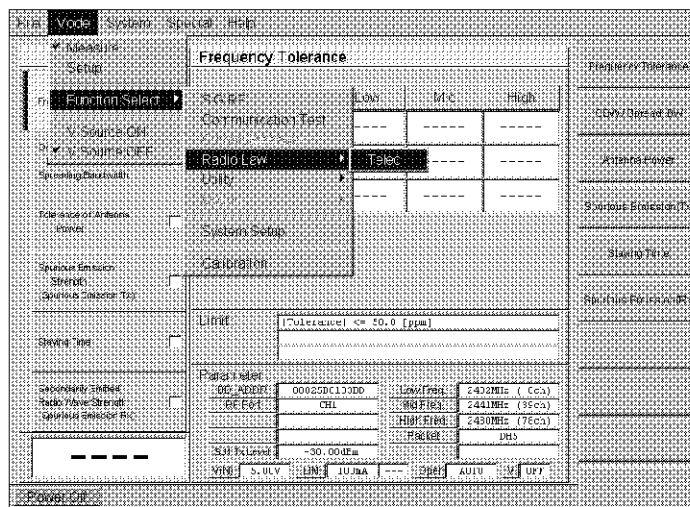

Figure 2-33 Telec Test Setting
2. Click **Mode** on the main menu and select **Function Select** → **Radio Low** → **Telec**. The Telec measurement screen is displayed (Refer to Figure 2-33).